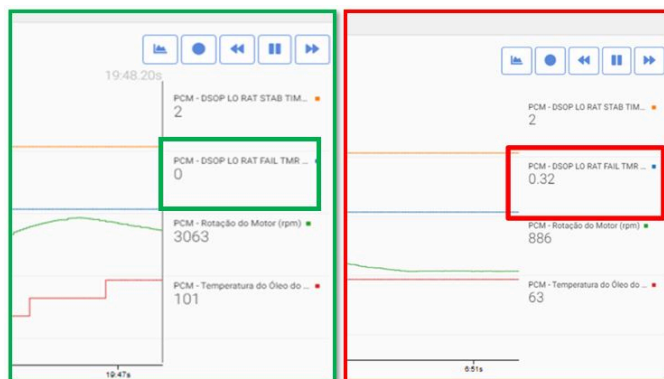

Fig. 1
- Create a graph with “DSOP LO RAT FAIL TMR” and Oil Pressure (kPa) and review the value. If oil pressure is below 110 kPa, and or If “DSOP LO RAT FAIL TMR” shows anything but “0”, the timing cover needs to be replaced Fig. 1.**